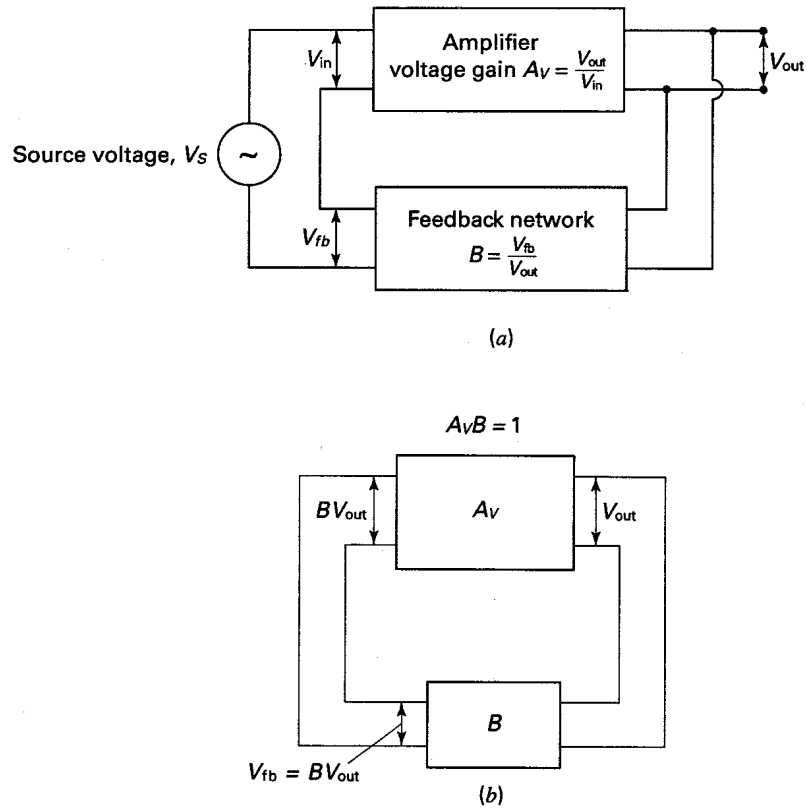

Fig. 2-1
Figure 2-1(a) shows the block diagram of an oscillator containing an amplifier and a feedback network. The output voltage  $V_{out}$  from the amplifier is calculated as:
Equation (2.3) clearly states that the feedback voltage is a fractional part of the output voltage. As you can see in Fig. 2-1(a), the feedback voltage  $V_{fb}$  is in series with the source voltage  $V_S$ . If the phase of the feedback voltage is negative, then a portion of  $V_S$  will be cancelled, in which case the output voltage will be reduced in amplitude. If the phase of the feedback voltage is positive, however, then the input voltage  $V_{in}$  is larger than with  $V_S$  alone. All oscillators must use positive feedback to sustain oscillations. Assuming the feedback voltage is positive in Fig. 2-1(a), the actual input voltage to the amplifier is:
Figure 2-1(a) does not illustrate a true oscillator, because of the presence of the external voltage source  $V_S$ . The only input to a real self-sustaining or free-running oscillator is the dc power supply from which power is supplied to the circuit. Figure 2-1(b) shows the block diagram of a real oscillator. As long as the Barkhausen criterion is met ( $A_V B = 1$ ), the output voltage  $V_{out}$  is developed without an external voltage source  $V_S$ . The feedback voltage  $BV_{out}$  serves as the only input to the amplifier.
**EXAMPLE 2.1.** In Fig. 2-1(b), assume that the feedback fraction  $B$  equals 0.01. Calculate the required value of  $A_V$  in order to sustain oscillations.
**EXAMPLE 2.2.** In Fig. 2-1(b), assume that  $A_V = -100$ . Solve for the value of  $B$ .